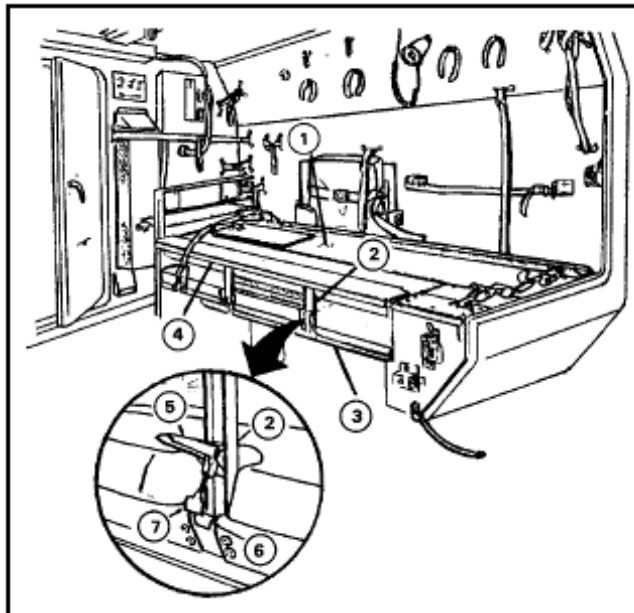

Figure 3-47
- (1) Load patients in the upper right, lower right, upper left, and then the lower left berths.
- (2) Load the most seriously injured patients last.
- a. Prepare the M996 for ambulatory patients (Figures 3-47 and 3-48).
- (1) Ensure litters are in stowed position.
- (2) Pull out and up on seat latch handle (5) and remove latch (7) from catch (6).
- (3) Lift seat back (4) to open position and fold seat back support (2) into recesses between seat cushions (9).
- (4) Ensure that seat braces (8) are fully extended and locked in position.
- b. Prepare the M996 for litter patients (Figures 3-47 and 3-48).